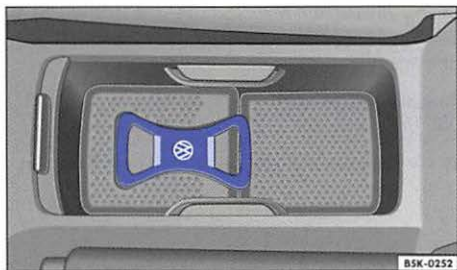

Fig. 101 Storage compartment in the center console.
- To *open* the storage compartment $\Rightarrow$ fig. 101, slide the cover on the center console forward.